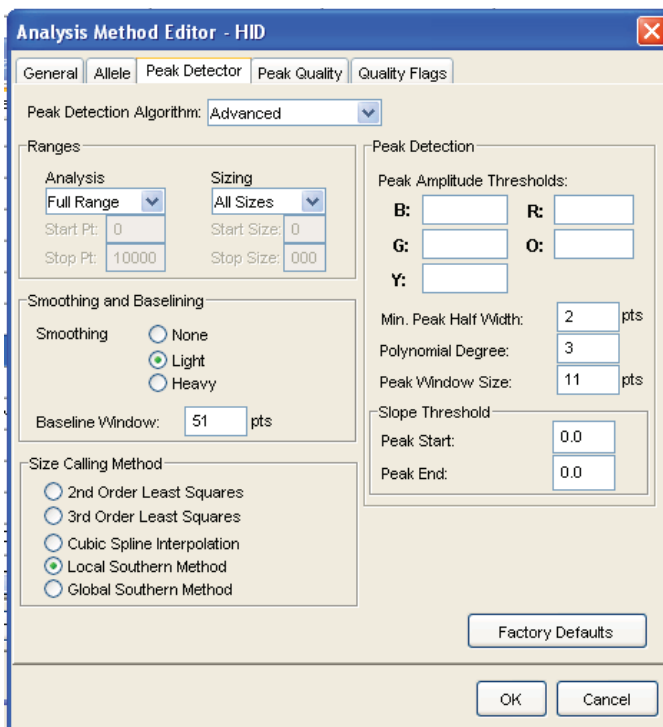

Figure 19. The GeneMapper® ID ‘Peak Detector’ tab.
10. Select the ‘Peak Detector’ tab (Figure 19). You will need to optimize these settings. In-house validation should be performed.
3. The peak window size shown in Figure 19 is not the default setting. It has been changed to 11 from the default value of 15. This ensures that the software can resolve alleles in the ladder that are 1 base apart for the larger loci, such as D1S1656, D12S391 and D2S441.
3. The peak window size shown in Figure 19 is not the default setting. It has been changed to 11 from the default value of 15. This ensures that the software can resolve alleles in the ladder that are 1 base apart for the larger loci such as D1S1656, D12S391 and D2S441.